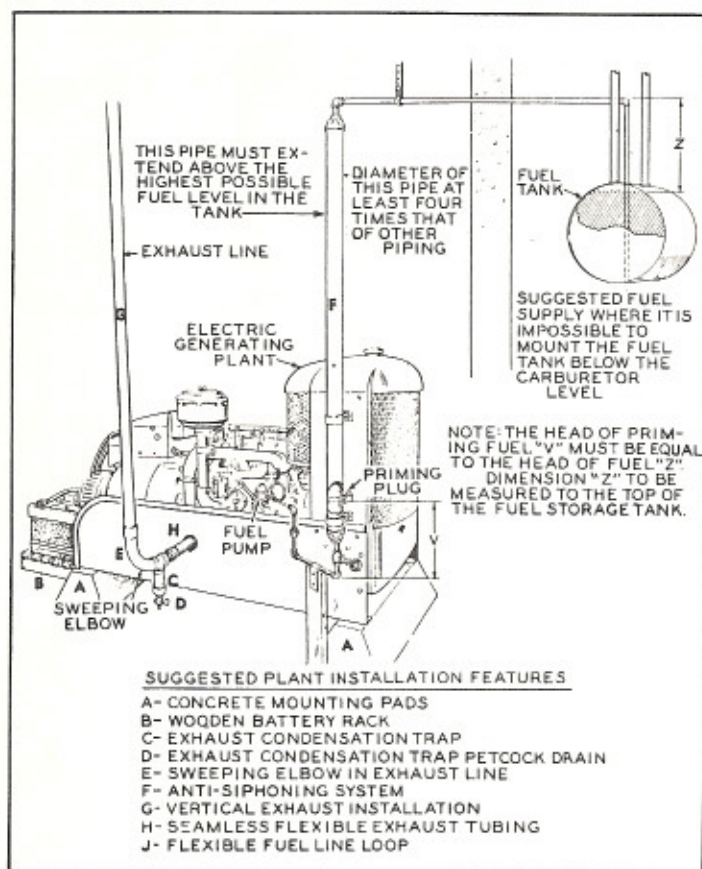

Figure 16 - Anti-siphon
**ANTI-SIPHON.** - Fuel from the supply tank fills a void created in the vacuum pipe by the engine fuel pump. The vacuum pipe should be about 4 times greater in diameter than the line leading from the fuel tank to the vacuum pipe. The smaller line can be 5/16" copper tubing. The vacuum pipe would then be 1-1/4". Refer to Figure 16 for details.